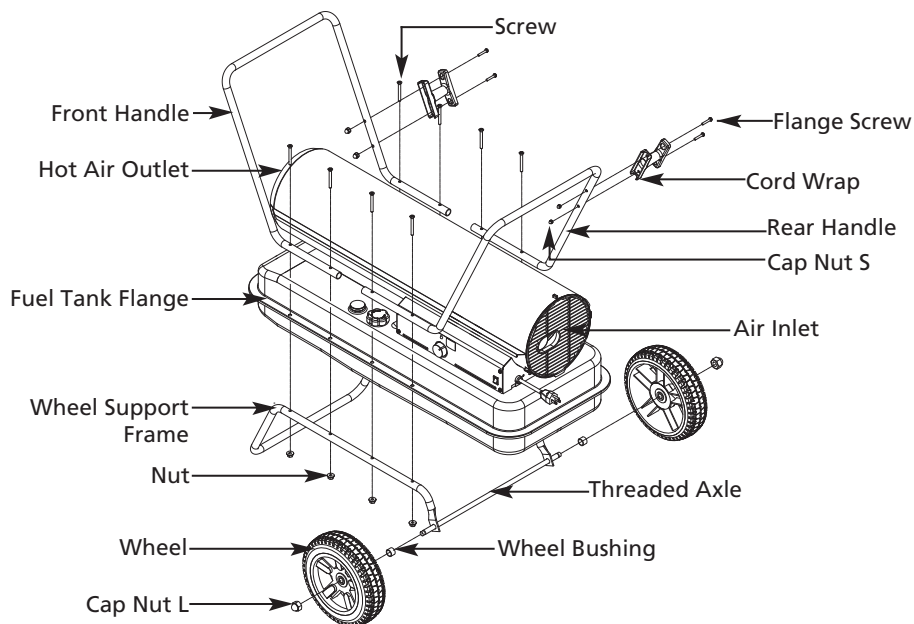

Figure 8 – Models 3VE50E, 3VE51E and 3VE52E Assembly
4. Position the Handles on top of fuel tank flange. Insert screws through handles, fuel tank flange and wheel support frames as shown in Figure 8 and attach nut finger tight after each screw is inserted.